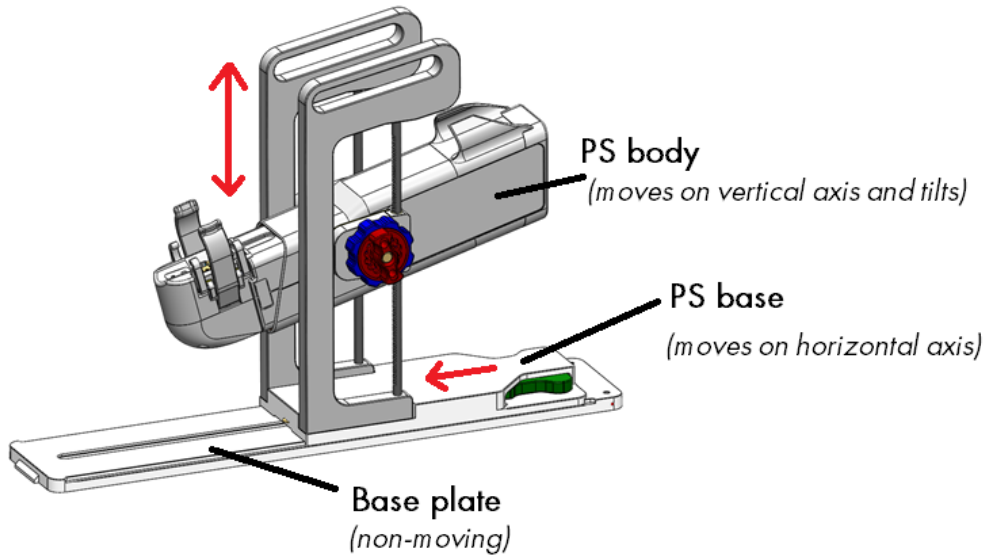

Figure 22: Adjusting the Positioning System
3. **MRI Technologist:** Manually move the PS into position so that the UA gripper aligns with the natural angle of the UA in the patient. Manually adjust the base of the PS forward and backward and up and down, and tilt the linear axis of the PS up and down (Figure 22). Adjust the horizontal position by pressing the green lever and sliding the PS base.
NOTE: The PS adjustment knobs and levers are not coloured as in Figure 22, but are coloured here to help with these instructions.